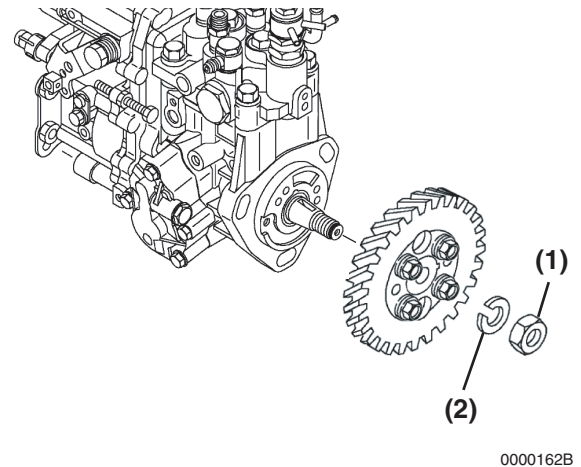

Figure 7-14
21. Once the fuel injection pump drive gear and hub assembly has “popped” loose from the tapered fuel injection pump drive shaft, carefully remove the drive gear nut **(Figure 7-14, (1))** and lock washer **(Figure 7-14, (2))**.